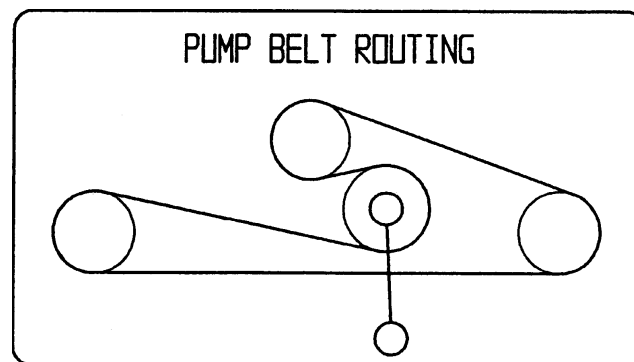

Figure 40
1. Pull spring loaded idler down and remove traction belt from the engine and hydro pump pulleys (Fig. 40). Remove belt between pulleys.
2. Install new belt around engine and hydro pump pulleys (Fig. 40).
3. Pull spring loaded idler down and align below traction belt. Release pressure on spring loaded idler (Fig. 40).